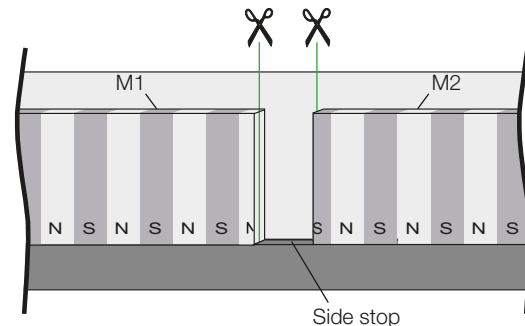
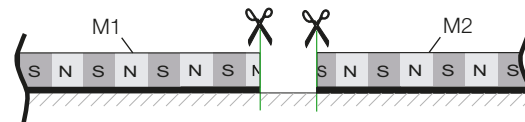

Fig. 4-7: Top view of tape
Fig. 4-8: Side view
Cut both ends of the tape straight at the joint (Fig. 4-7 and Fig. 4-8).
1. Tape M1 is already bonded. Fasten a side stop at the joint so the next tape M2 can be precisely aligned (Fig. 4-7).